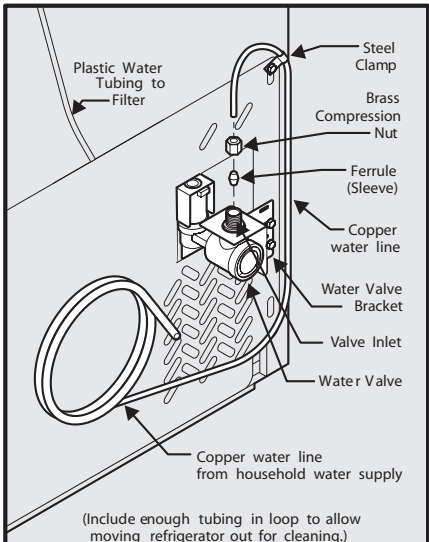

Figure 1
4. If you use copper tubing - Slide brass compression nut, then ferrule (sleeve) onto water supply line. Push water supply line into water valve inlet as far as it will go (1/4 inch). Slide ferrule (sleeve) into valve inlet and finger tighten compression nut onto valve. Tighten another half turn with a wrench; DO NOT overtighten. See Figure 1.